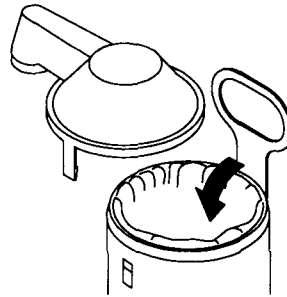

FIG. 3
5. GENTLY FOLD THE TOP OF THE PAPER INWARDS OVER THE PAPER BAG RING (FIG. 3)